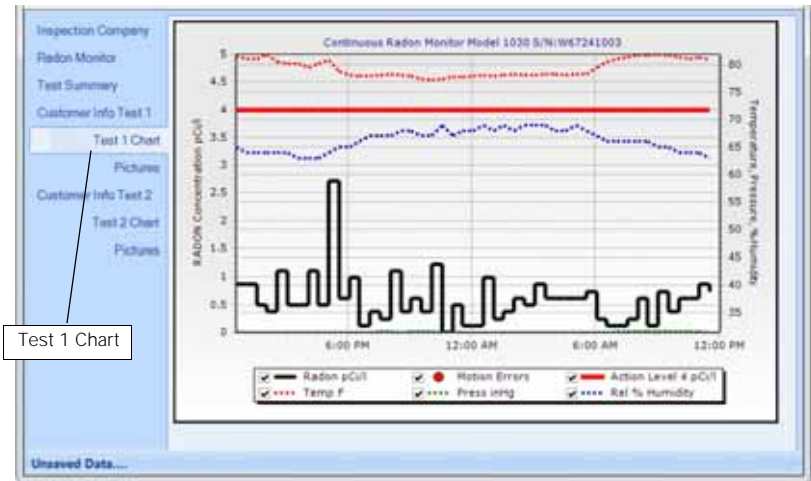

Figure 18. Test 1 Chart Example
- 2 Select **Test 1 Chart** in the navigation panel (Figure 18).